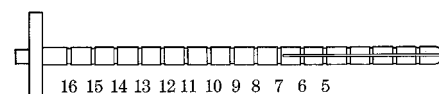

Figure 4-11. Furlow Insertion Tool
1. Use the Furlow Insertion Tool (**Figure 4-11**) and Keith Needle to help introduce cylinders into the corpora cavernosa.